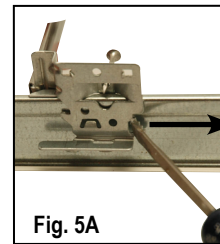

Fig. 5A
4. Lock each hanger bar foot to the T-bar using the two integral locks or a sheet metal screw (supplied by others). If tie-wire is desired for additional support, each bar hanger foot has holes suitable attachment of wire. (Fig. 5A)